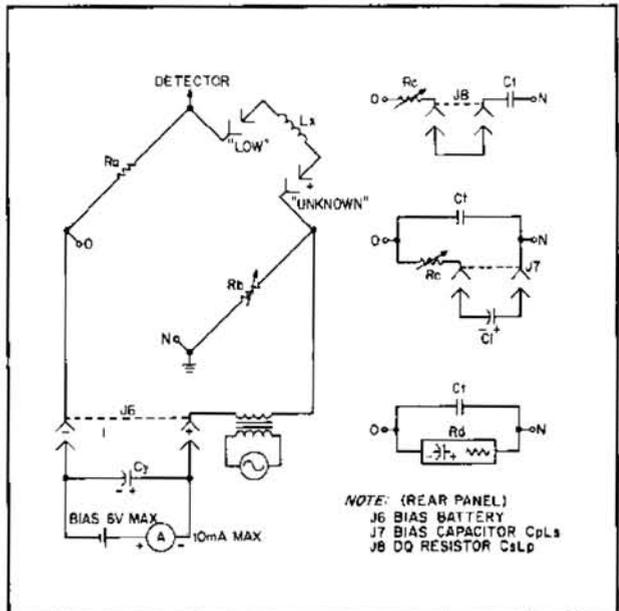

Figure 3-6. Dc Biased Inductance Measurement
measurement. Figure 3-6 schematically illustrates the dc bias application. Operating procedure for dc-biased measurements is described below and pictorially shown in Figure 3-6. The following equipment will be required:
- a. Connect the measurement setup as shown in Figure 3-6. Ground only the 4260A cabinet to power line ground.